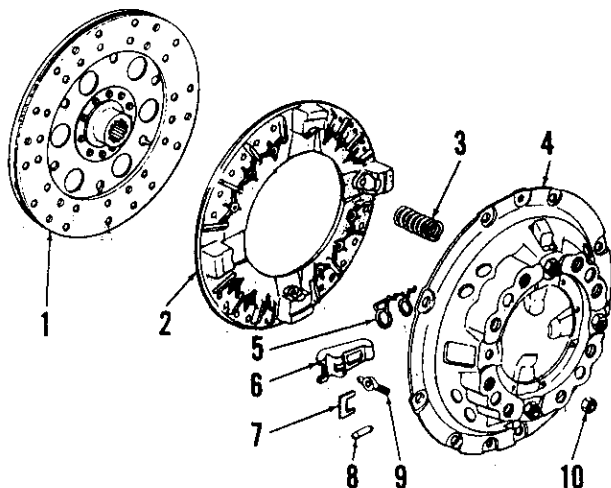
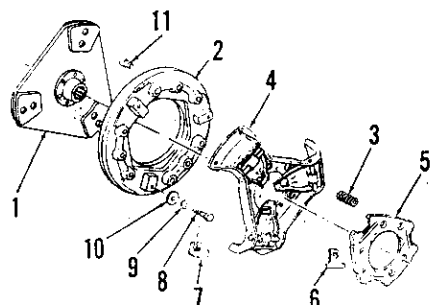

Fig. 173—Exploded view of early type single disc clutch used on three cylinder models so equipped.
Fig. 174—Exploded view of the (Cerametallic) single disc clutch.
Early type clutches used a full cover with four release fingers, and clutch disc facings were a full circle fibrous type as shown in Fig. 173. Beginning with October 1969 production, and continuing through August 1971 production, a ceramic button ("cerametallic") clutch was installed which uses a skeleton type cover with three release fingers as shown in Fig. 174. The "cerametallic" clutch units are not interchangeable with the earlier (prior 10/69) units and both the flywheel and clutch shaft must be renewed if the "cerametallic" type clutch is installed in early models. Beginning with September 1971 production, the "cerametallic" clutch was discontinued and a clutch similar to the early full circle (prior 10/69) clutch was installed. However, clutch disc of the latest full circle type is not interchangeable with the early type as it has square cut splines which fit the current clutch shaft that was introduced with the "cerametallic" clutch.
on clutch disassembly tool. On models with full cover, refer to Fig. 173 and remove the four finger adjusting nuts (10).
On (Cerametallic) units carefully depress spring retainer (5—Fig. 174) until it clears clutch cover (4) by approximately ¼-inch at nearest point. Using a screwdriver or similar tool, pry spring retainer sideways away from release lever pivot (Fig. 175), and unhook each lever link (Fig. 176) in turn, until all three are disconnected.
NOTE: It may be necessary to thread adjusting screws (8—Fig. 174) into pressure plate for additional finger clearance.
On all models, slowly release the pressure and disassemble cover unit. On late models, DO NOT remove release levers or pivot pins from clutch cover (4—Fig. 174); unit is available only as an assembly. Other parts of all clutches are available individually.